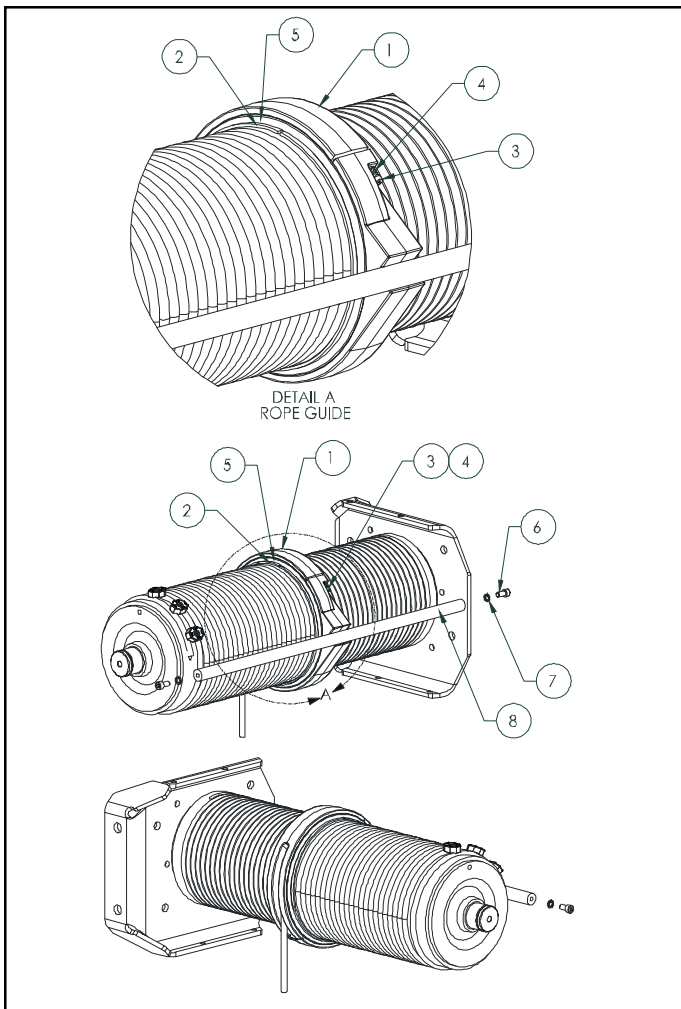

Figure 5-3a. Rope Guide Assembly ("B" & "C" Frame)
b) **Disassembly for "B" & "C" Frame.** Refer to Fig. 5-3a. For further assistance in locating components, refer to the parts list in Section IX.
- (1) Remove socket head cap screws and lock washers (Items 6 and 7). Remove drum frame rod (Item 8).
- (2) Remove shoulder bolts (Item 3) and compression springs (Item 4). The two halves of the rope guide body (Item 1) can now be pulled off the drum separately. When reassembling be sure that the half with the rope slot is on the top half of the drum.
- (2) With all personnel clear of hoist - TURN ON POWER.
- (3) Operate hoist "UP" guiding six (6) wraps of new rope into drum grooves with gloved hand.
- (4) Reinstall rope guide over rope in rope drum grooves as shown in Figure 5-3a. & 5-3b. and outlined in Section V, Paragraph 5-5. Continue lubricating as rope is spooled onto the drum until about 28'-0" remain unwound.